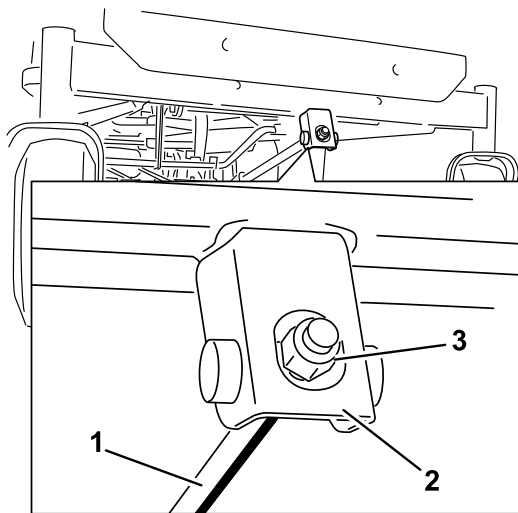

Figure 62
1. Rotate the adjustment nut in the front of the mower (Figure 62).